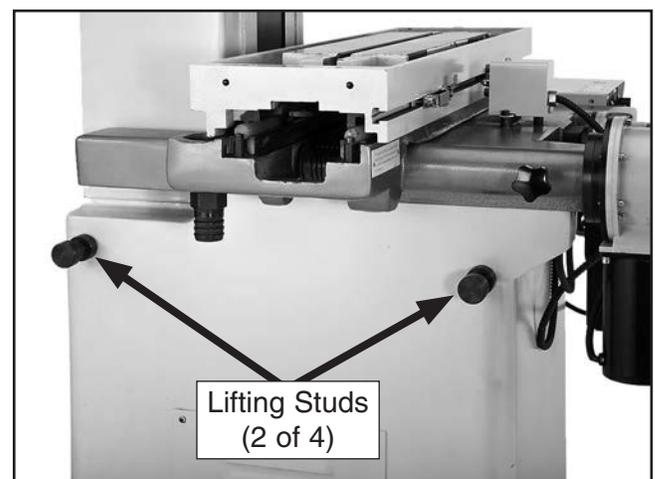

Figure 13. Lifting studs (2 of 4 shown).
9. Secure a safety hook and chain to each of four lifting studs (see **Figure 13** for identification).